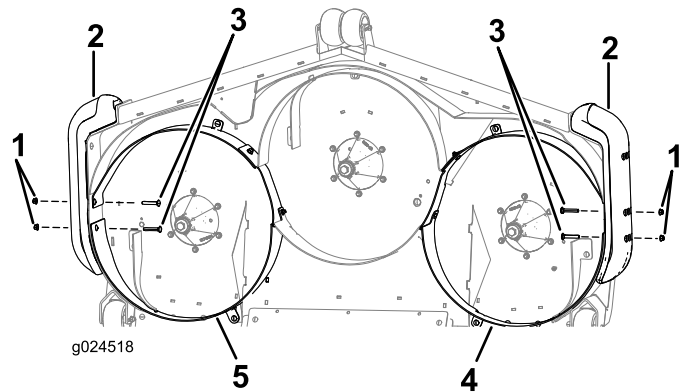

Figure 6
Note: To help align the baffles, loosely insert the carriage bolts (3/8-16 x 2.5 inches) and flange nuts (3/8-16) through the side of the baffles and the bumper (Figure 6).
1. Insert 2 carriage bolts (3/8-16 x 2.5 inches) on each side through the right and left-hand baffle and the bumpers (Figure 6).
2. Secure the carriage bolts with 2 flange nuts (3/8-16) on each side (Figure 6).